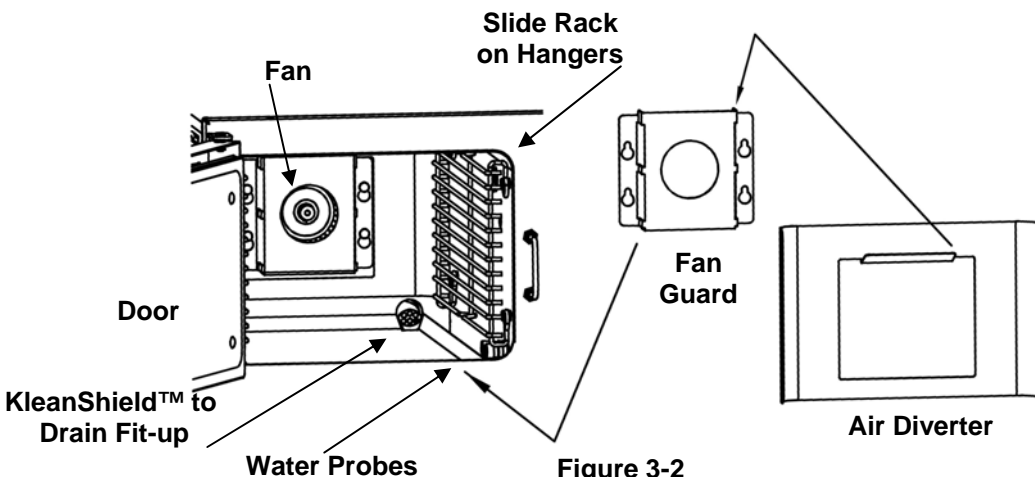

Figure 3-2
- Pull it down so that the narrow ends of the slots are pulled tight over the mounts. See Figure 3-2.
1. See Figure 3-2. Each rack has four loops: two at the top and two at the bottom. Hold the slide rack so the ends of the hanger loops are towards the cooking compartment wall.
2. Inspect the door gasket assembly, water level sensors, KleanShield™, drain screen, fan guard, air diverter, and slide racks for proper installation and cleanliness. See Figure 3-2.